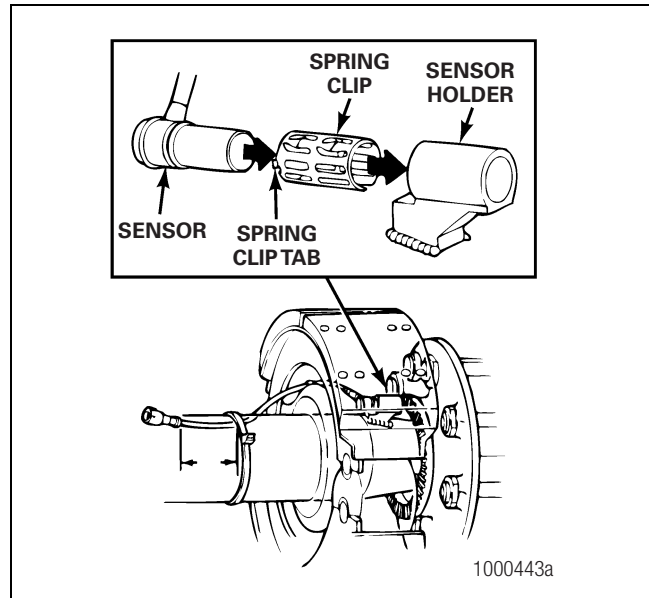

Figure 4.2
4. Push the sensor completely into the sensor spring clip until it contacts the tooth wheel. Figure 4.2.